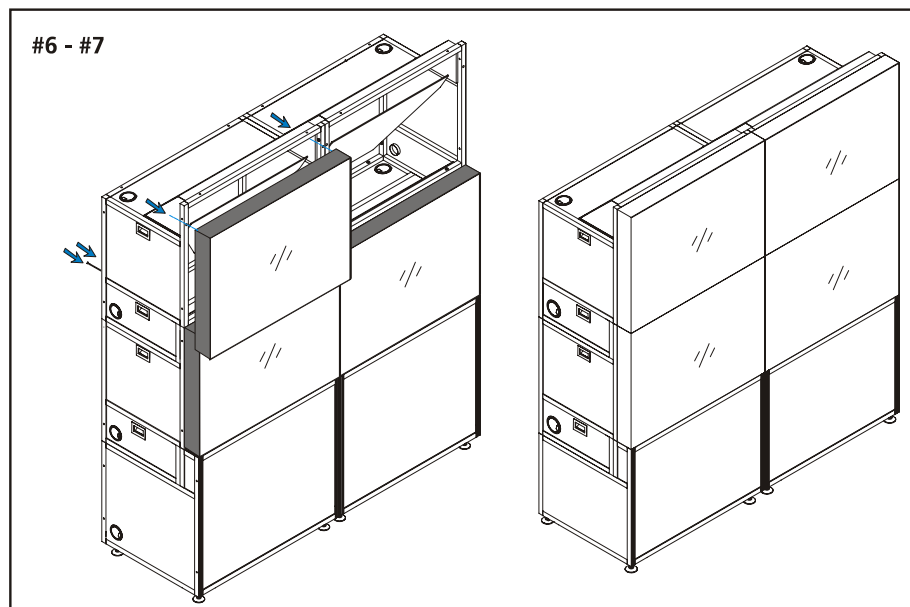

FIGURE 2-16 INSTALLING SCREENS ON SECOND ROW OR HIGHER
7. When installing screens on additional rows, repeat steps 1-5 above (see Figure 2-16). Always complete installation of screens on one row before starting on the next row. Alignment and screen gap issues must be corrected before adding an additional row of screens. A misalignment is very difficult to correct once all screens are in place.